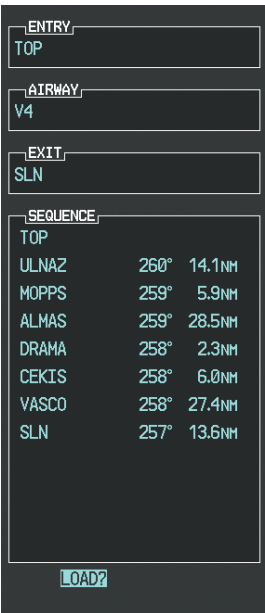

Figure 5-112 Ready to Load V4
- j) Press the **ENT** Key. The selected airway and exit are displayed, and the prompt “LOAD?” highlighted as in Figure 5-112.